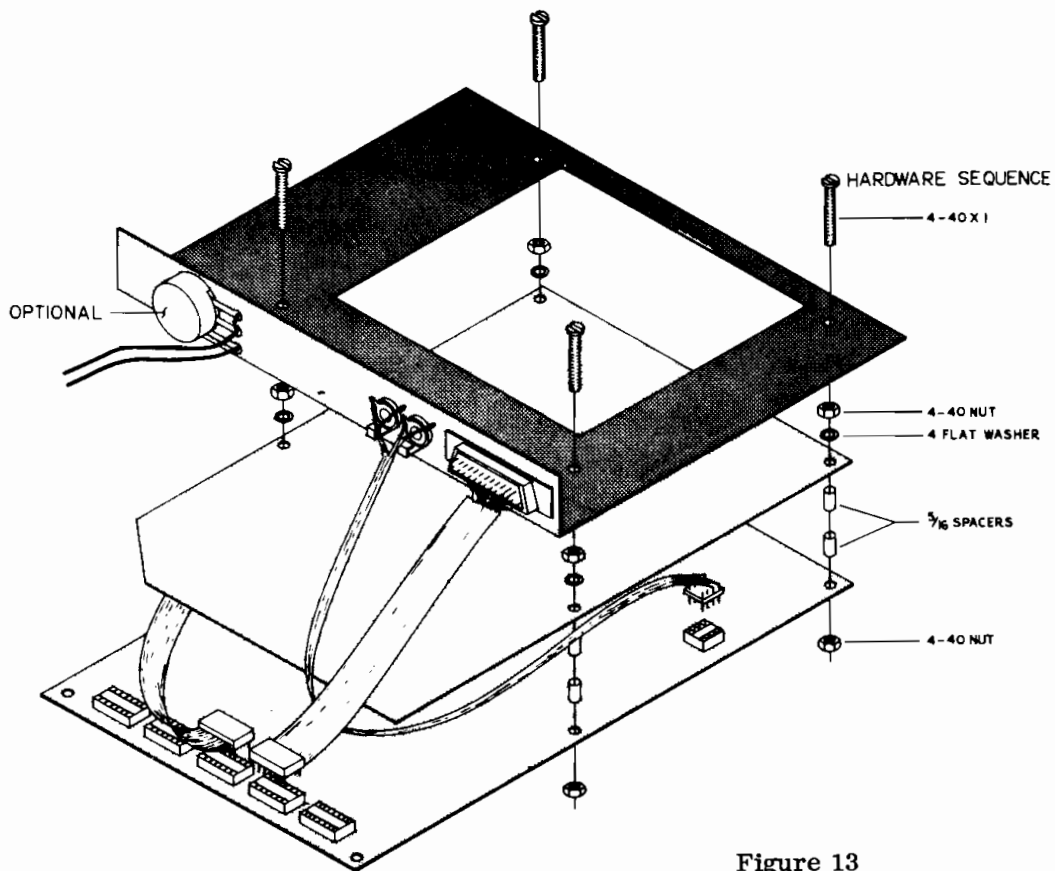

Figure 13
- () The connector from the DB-25 socket pins 1-15 with the 8700 DATA BUS connector J1 (do not be confused by figure 13 which would seem to indicate that this header goes to another socket).